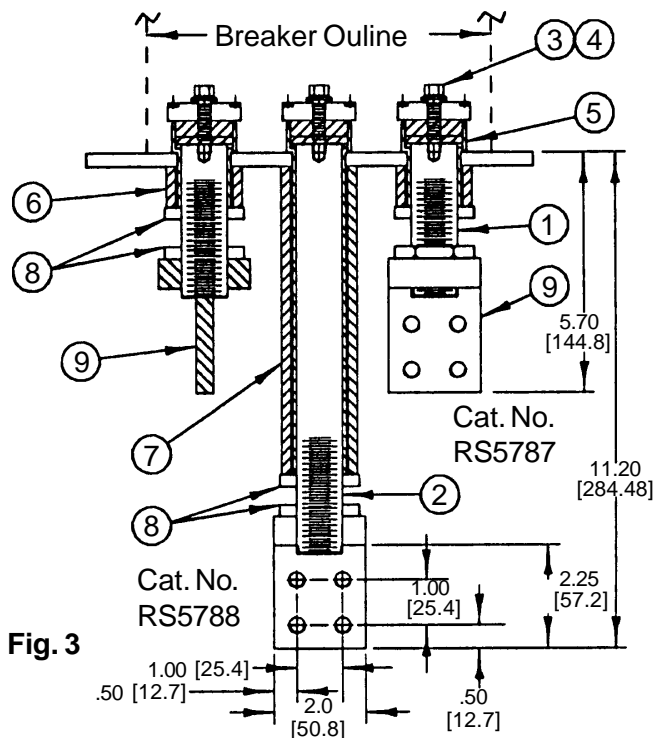

Fig. 3
FINAL ASSEMBLY (Fig. 3)
11. Make desired bus bar connections using 5/16 bolts & washers to "T" connectors. (See Fig. 3 for hole pattern of "T" connector).